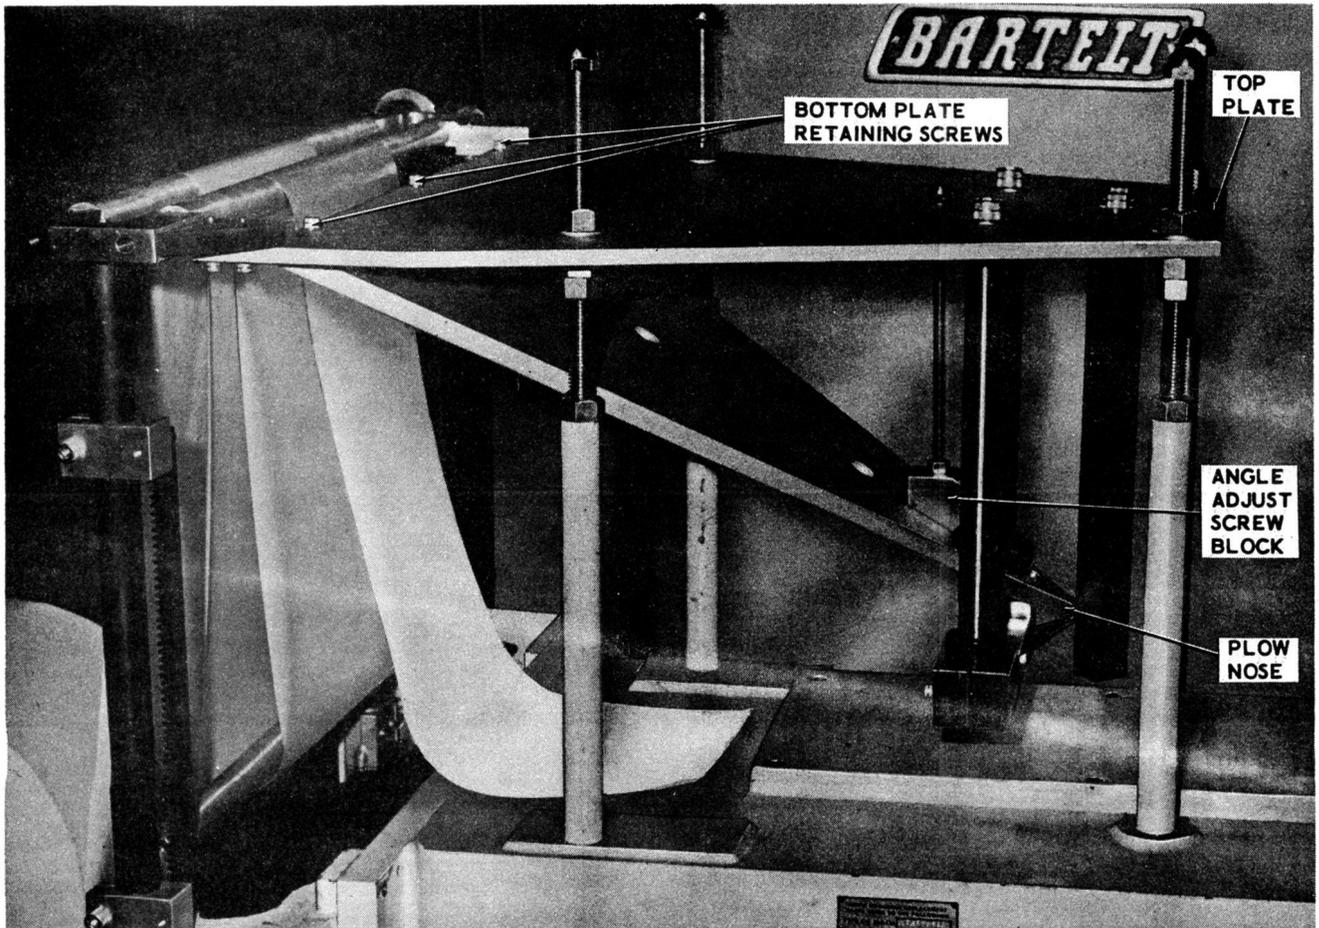

Figure 6-3. Replacing Plow Assembly Bottom Plate
Replace the plow assembly bottom plate (Figure 6-3) as follows:
- d. Attach new bottom plate to the underside of the plow assembly top plate with three socket head screws and lock washers (Figure 6-3).
- e. Attach bottom plate to the underside of angle adjust screw block (Figure 6-3) with two flat head machine screws.